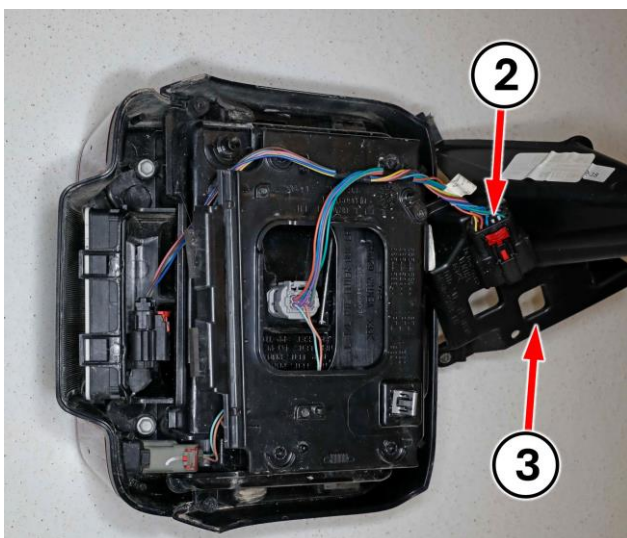

Figure 8 – Lamp Mounting Bracket Positioned Aside.
4. **Both NEW and OLD lamps:** Position aside the mounting bracket (3) with electrical connector (2) still attached to mounting bracket (Figure 8).